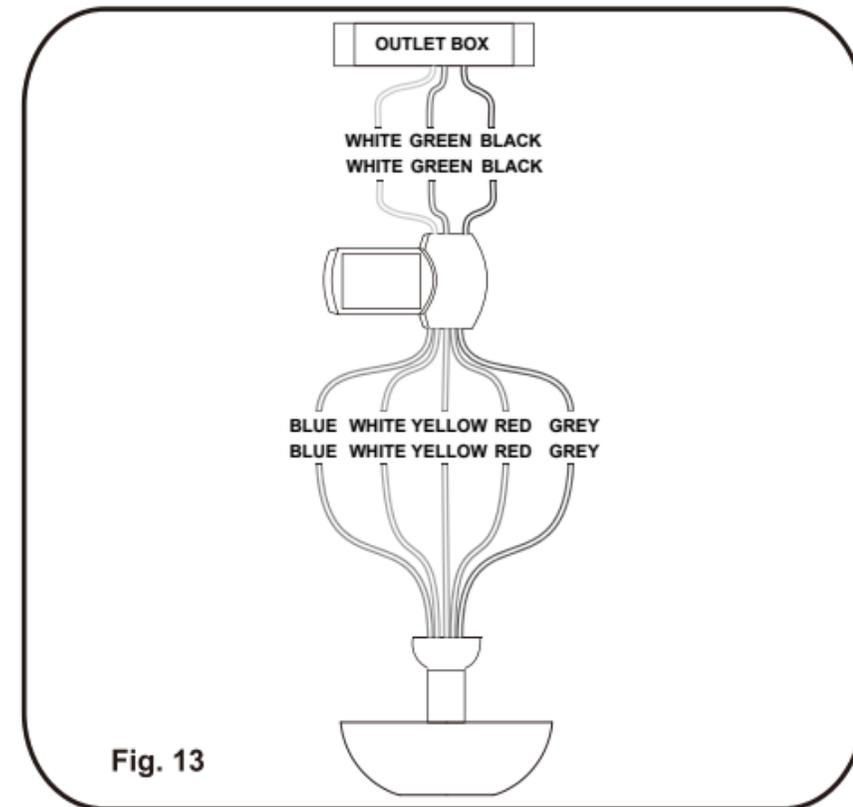

Fig. 13
Connect the **GREY** wire from the fan to the **GREY** wire marked "MOTOR 3" from the Receiver. (Fig.13)
Connect the **BLACK** wire(Hot) from the outlet box to the **BLACK** wire marked "AC in L" from the receiver.(Fig.13)
**Step 4.** If your outlet box has a **GROUND** wire (Green or Bare Copper),connect this wire to the Hanger Ball and Hanger Bracket and receiver Ground wires. If your outlet box does not have a Ground Wire, then connect the Hanger Ball and Hanger Bracket and Receiver Ground Wire together.Secure wire connection with the plastic wire nut provided.(Fig.13)